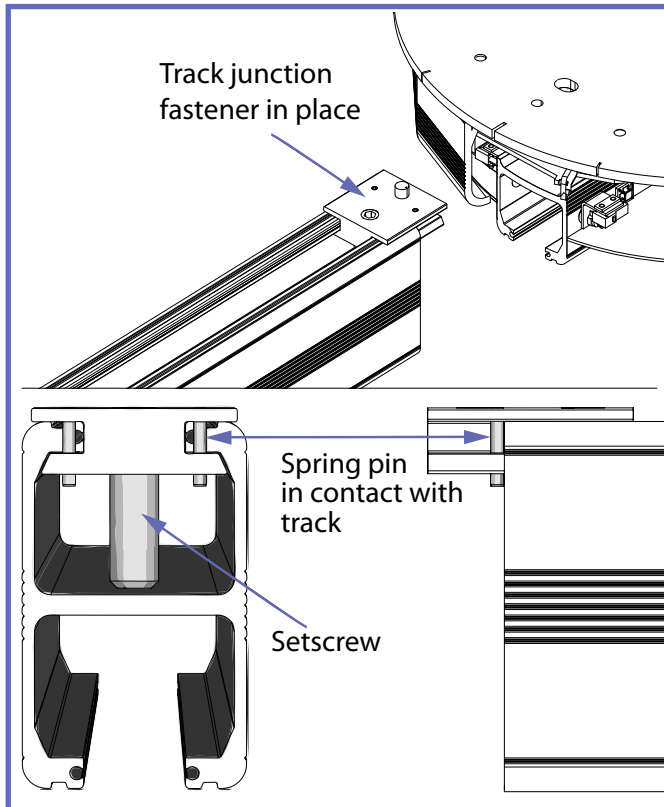

Fig.10
- 6) Attach the tracks to the turntable using the previously installed track fasteners, see Fig. 10. Use a 13 mm socket to screw bolt to 20 N·m (15 lbf·ft). The turntable must be level in all directions.